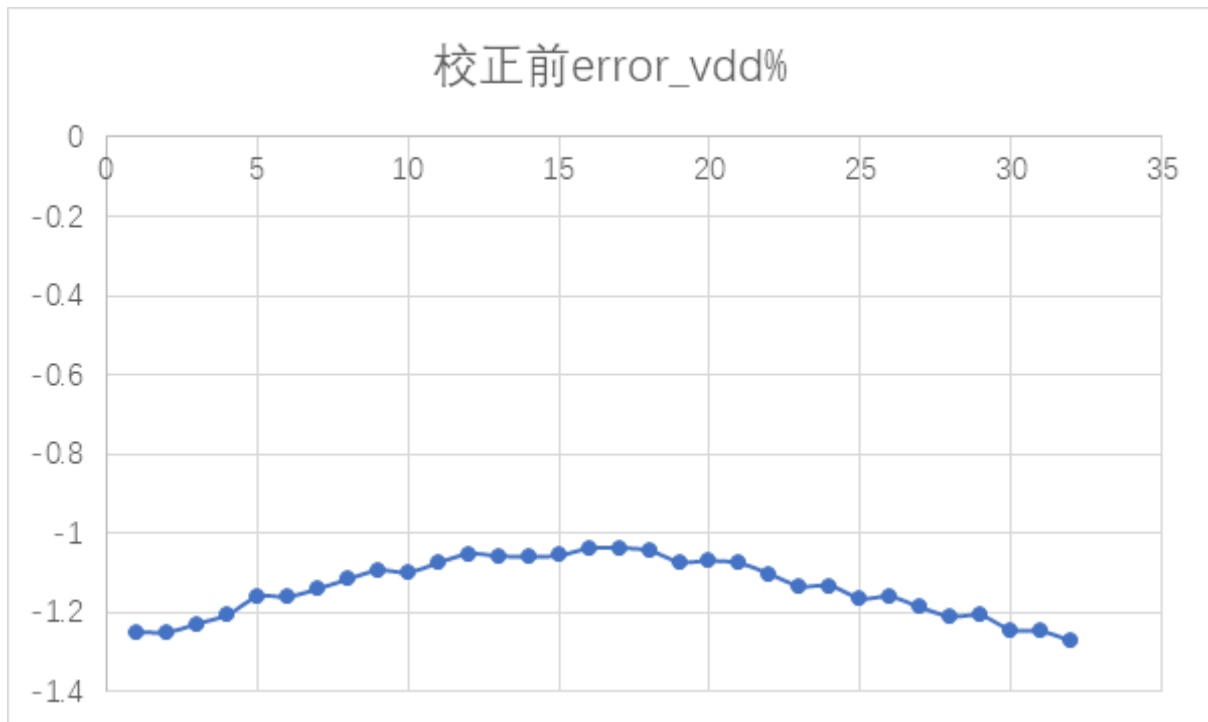

Figure 5.4.2 Error values of the actual output of 17 positions after 2 point programming
- Calculate the theoretical calibration value (ideal\_vdd%) of each position at 17 points through the Excel calculation file provided by our company, which can be calculated by various tools such as Excel/MATLAB/C computer software. At present, our company only provides Excel calculation formula documents. The error can be calculated using the formula  $error\_vdd\% = real\_vdd\% - ideal\_vdd\%$ . Figure 5.4.2 below shows the error value of 17 points before programming calculated by the current data.